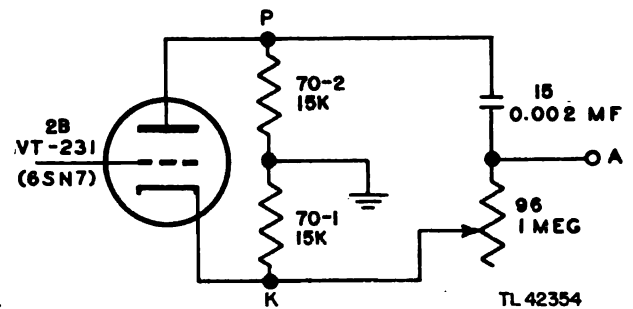

Figure 45. Phase shifter circuit, equivalent diagram.
d. The circuit of the phase shifter is redrawn in figure 45. To make it more easily understood, the d-c current path is omitted and only those components are shown that are necessary to the phase shifter operation. Capacitor 3A effectively grounds one end of the plate load resistor 70-2 for alternating current and the end of the cathode resistor 70-1 is directly grounded and not bypassed. The result is that, neglecting capacitor 15 and variable control 96,